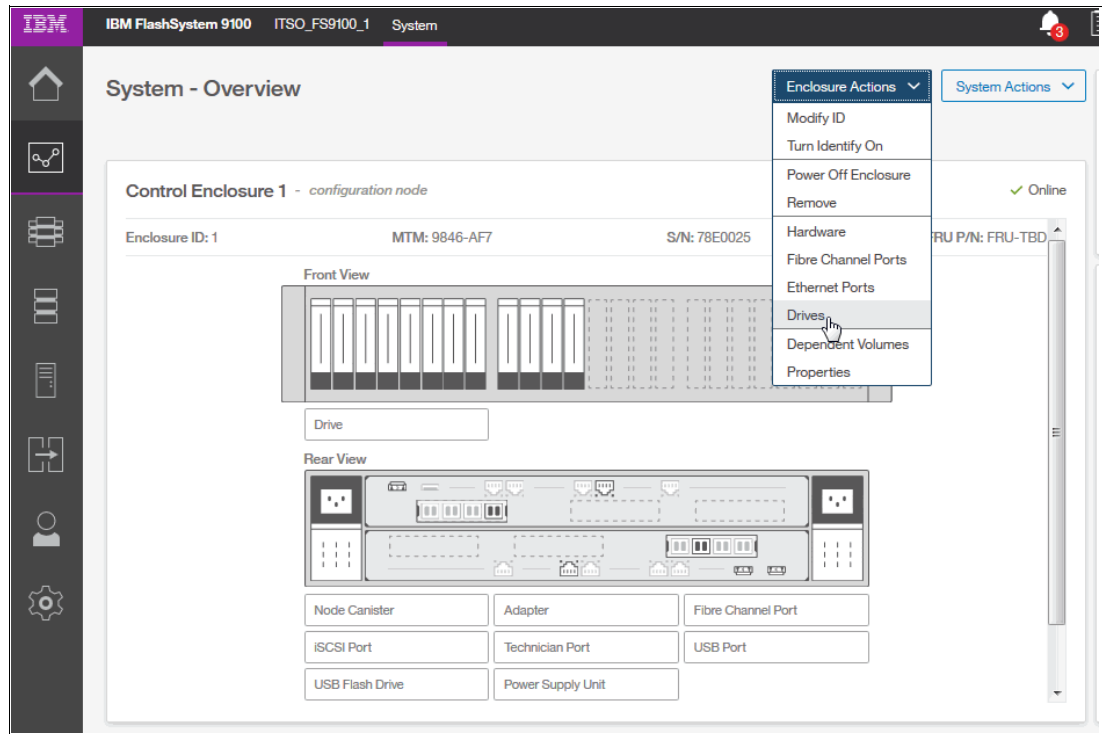

Figure 5-14 Enclosure Actions - Drives. View new NVMe drives.
2. Select **Enclosure Actions** → **Drives** to view internal drives, as shown in Figure 5-14.